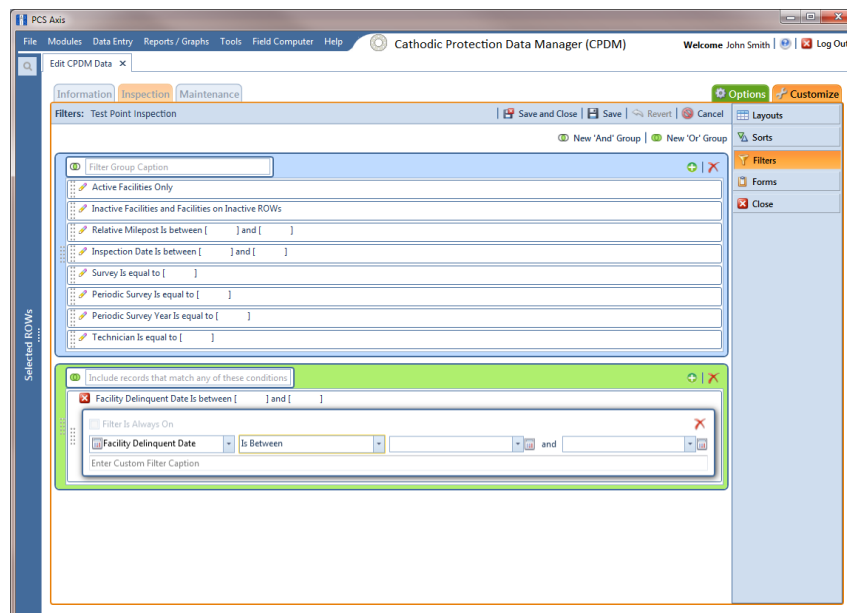

Figure 7-118. Filters
- 5 Click **New 'Or' Group** to open a filter properties group box (Figure 7-118).
- 8 If the OR filter group includes a date filter, such as *Facility Delinquent Date Is Between* shown in Figure 7-118 (page 328), set a date range using a calendar or dynamic dates in the following manner: